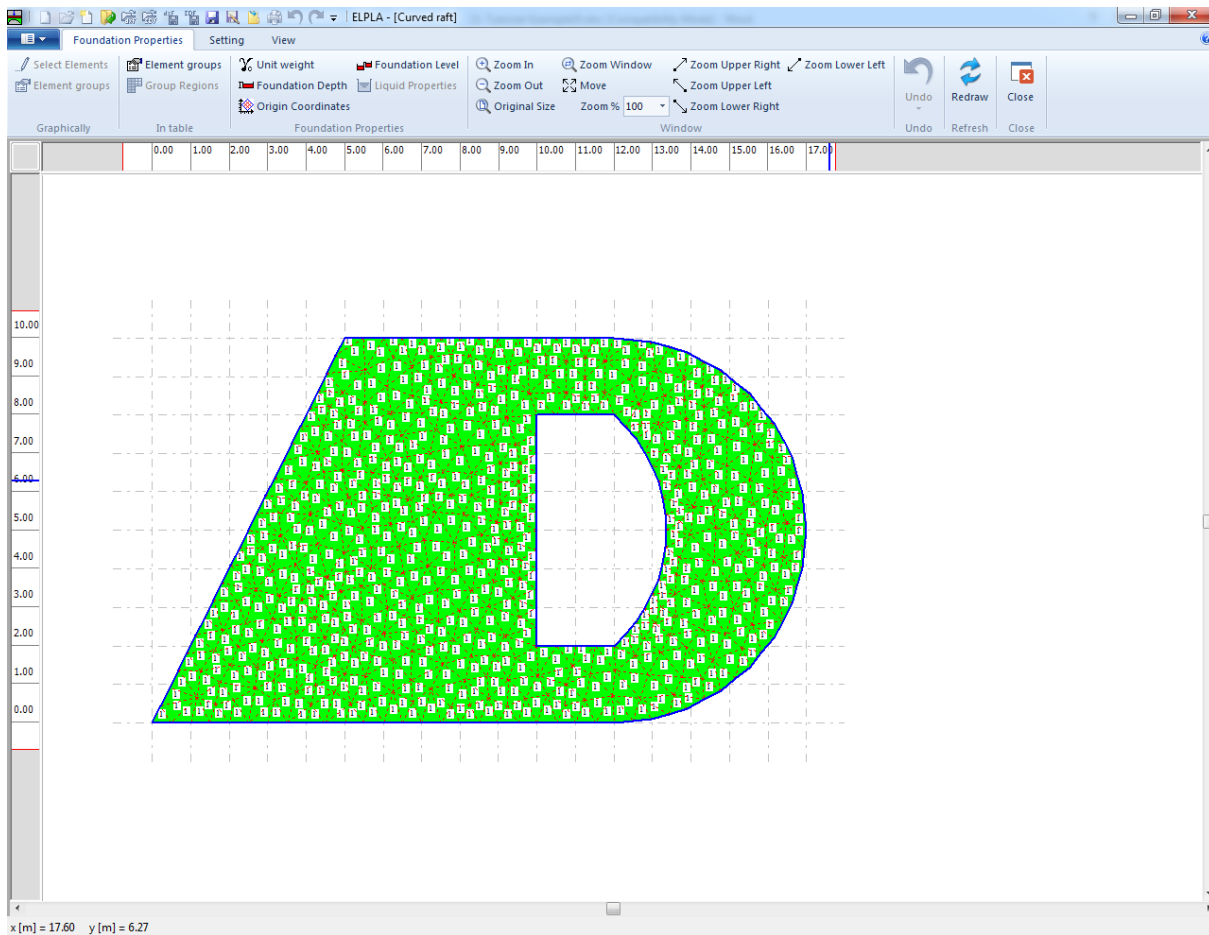
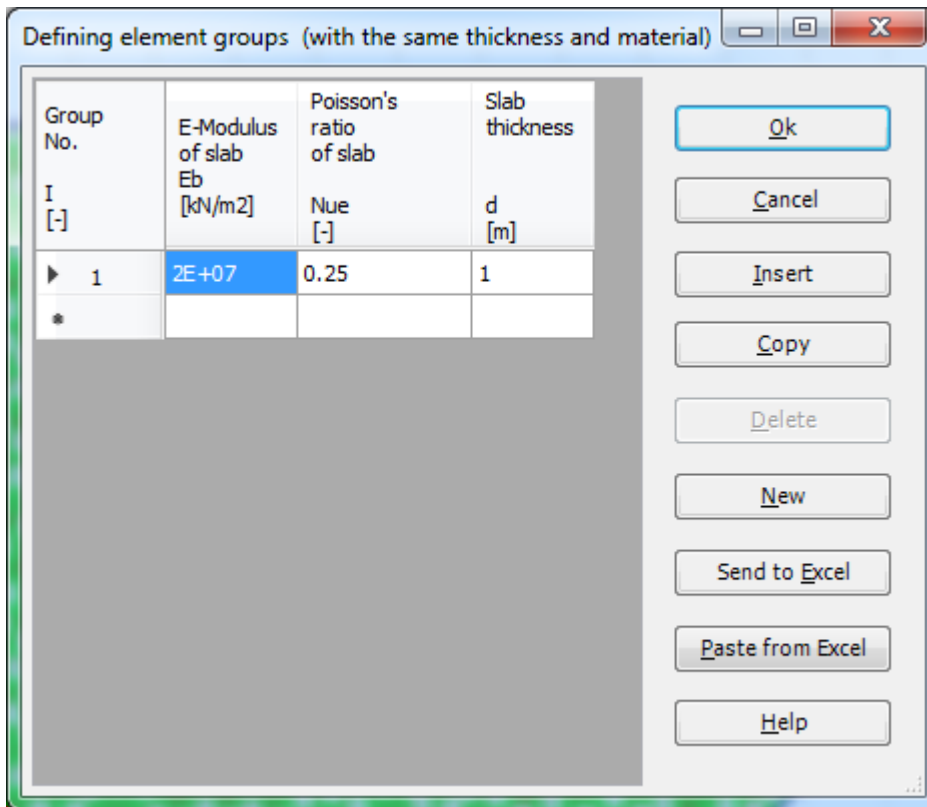
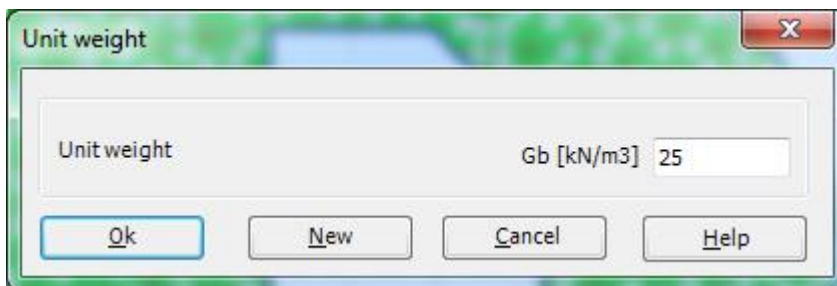
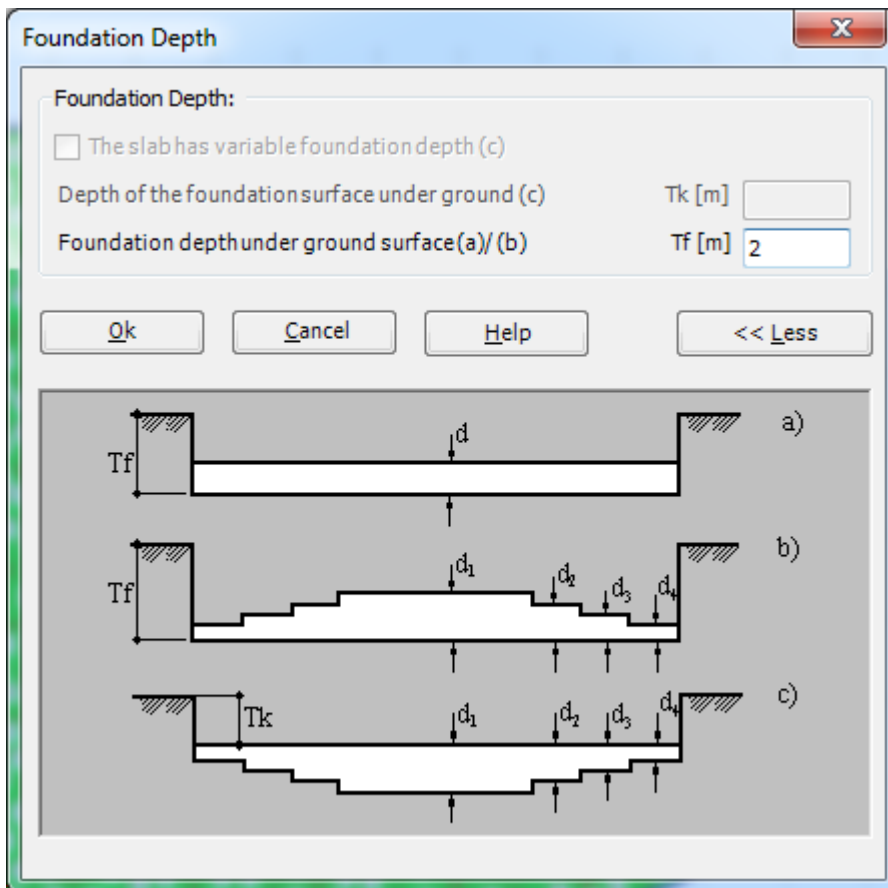

Figure 10.24 "Foundation Properties" Window
Figure 10.25 "Defining element groups" list box
Figure 10.26 "Unit weight" dialog box
Figure 10.27 "Foundation Depth" dialog box
To define the foundation properties, choose "Foundation Properties" command from "Data" Tab. The following Window in Figure 10.24 appears with default foundation properties. The data of foundation properties for the current example, which are required to define, are foundation material and foundation thickness. Any other data corresponding to foundation properties in the program menus are not required. Therefore, the user can take these data from the default foundation properties.
- Choose "Element groups" command from "Foundation Properties" menu in the window of Figure 10.24. The following list box in Figure 10.25 with default data appears. To enter or modify a value in this list box, type that value in the corresponding cell then press "Enter" key. In the list box of Figure 10.25, enter E-Modulus of the foundation, *Poisson's* ratio of the foundation and foundation thickness
- Choose "Unit weight" command from "Foundation Properties" menu in the window of Figure 10.24. The following dialog box in Figure 10.26 with a default unit weight of 25 [kN/m³] appears. Let the default value as written in the edit box "Unit weight"
- Choose "Foundation Depth" command from "Foundation Properties" menu in the window of Figure 10.24. The following dialog box in Figure 10.27 appears
- Choose "Save" command from "File" menu in Figure 10.24 to save the foundation properties
- Choose "Close" command from "File" menu in Figure 10.24 to close the "Foundation properties" Window and to return to *ELPLA* main window